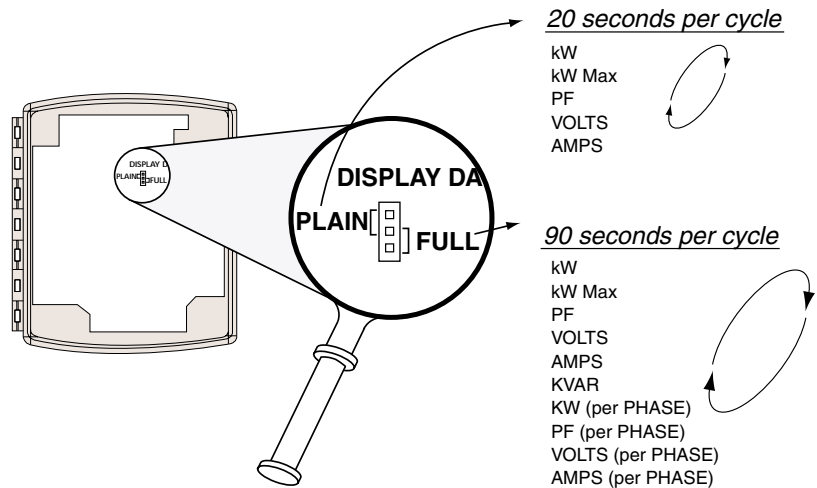

Figure 11: Setting the display data jumper
12. Set the display data jumper to select between the “Plain” and “Full” settings. The “Plain” mode displays WHRS and cycles through five data elements (kW, kW Max, average power factor, line-to-line voltage, and amps) for four seconds each. The “Full” mode displays WHRS and cycles through all of the data available from the meter (all the above, plus kVAR, and data on individual phases), as shown in Figure 11. When the COMMS board is installed, kW Demand is also displayed.